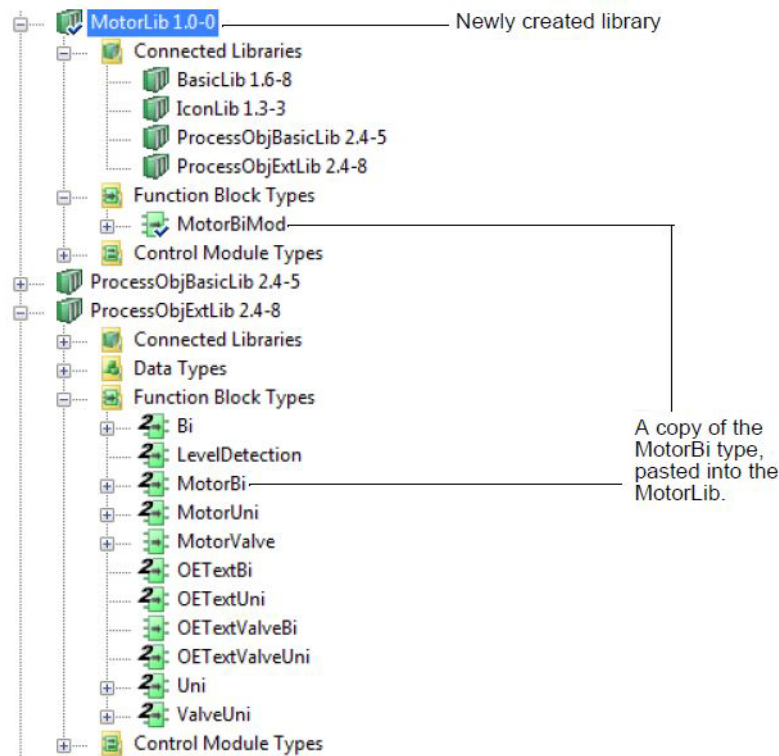

Figure 134. Copying of object types to a new library, MotorLib
12. Select the control module type that is to be replaced, under the process object type, in your own created library (MotorLib), in this example, FaceplateMotorBiMod under MotorBiMod. See Figure 134.